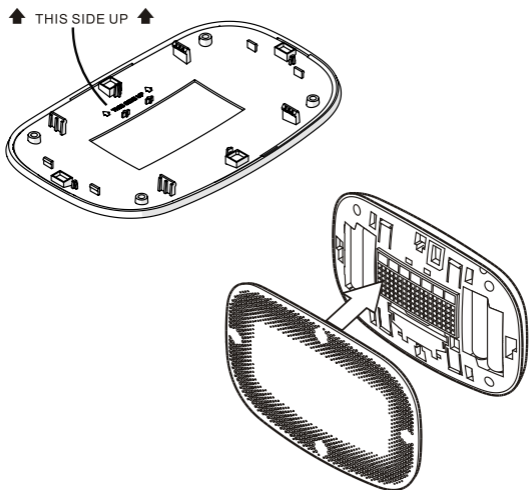

Figure 9. Install the Front Housing
8. Align the front housing of the thermostat with the back housing and push until the housing sections are locked together (Figure 9).refer to the mark of "THIS SIDE UP" on the back of the cover plate to ensure correct position.